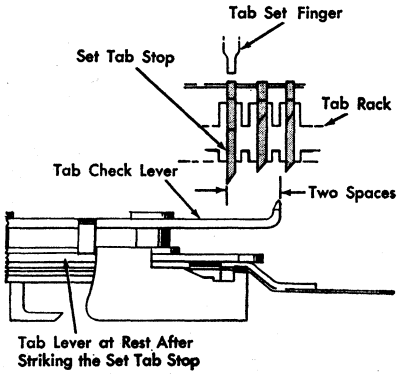

Figure 38. Tab Set and Clear Bracket Adjustment
11. TAB SET AND CLEAR BRACKET. Position this by loosening the three screws which hold it to the rear frame. Move the bracket right or left until the tab set lever strikes the center of the back of the tab stop which is second to the left of the tip of the tab check lever (Figure 38).